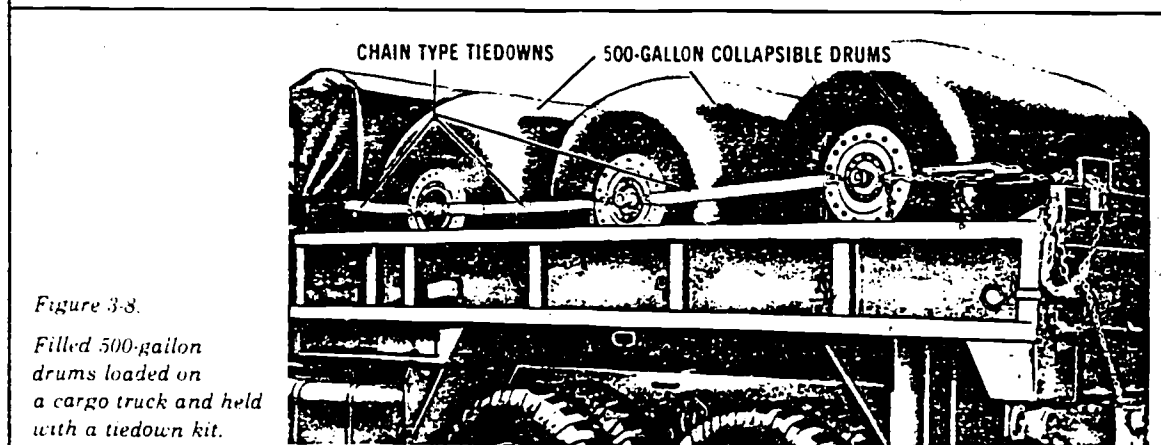

Figure 3-8.
□ **Carried by truck.** Collapsible drums can be carried from a filling site to a dispensing area in 2 1/2- or 5-ton cargo trucks (fig 3-8) or on a stake or platform trailer. Tiedown kits are used to hold the drums during transport.